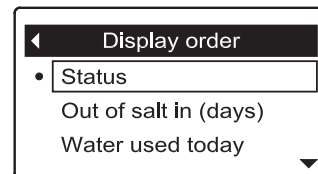

FIG. 67
4. Press the SELECT (○) button to display the Display order screen (See Figure 67).